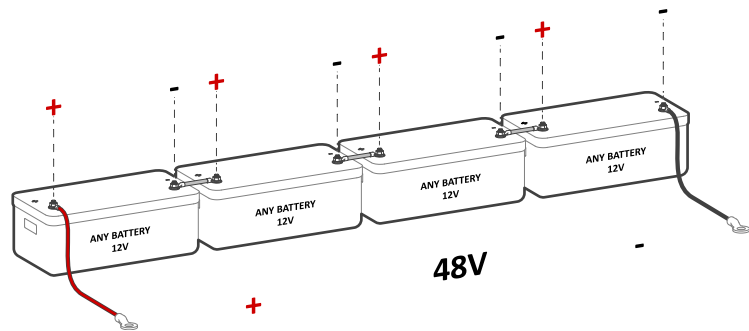

Figure 5b: 12V batteries in series connection
⚠ Sol-Ark 15K-2P-L is a **48V nominal system**. **DO NOT** connect the inverter to any other battery configuration. If you use 12V batteries, you **MUST NOT** exceed four (4) batteries in series, as shown in Figure 5b. The inverter can work with any battery chemistry as long as it remains within the range of **43V to 63V**.